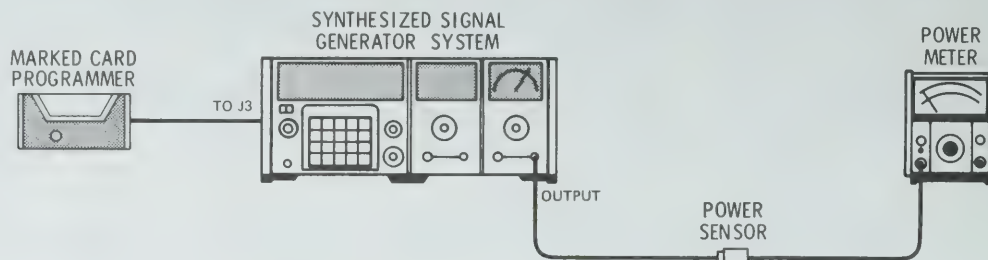

Figure 5-2. 1 dB Step Attenuator Adjustment Test Setup
1. Connect the equipment as illustrated in Figure 5-2.